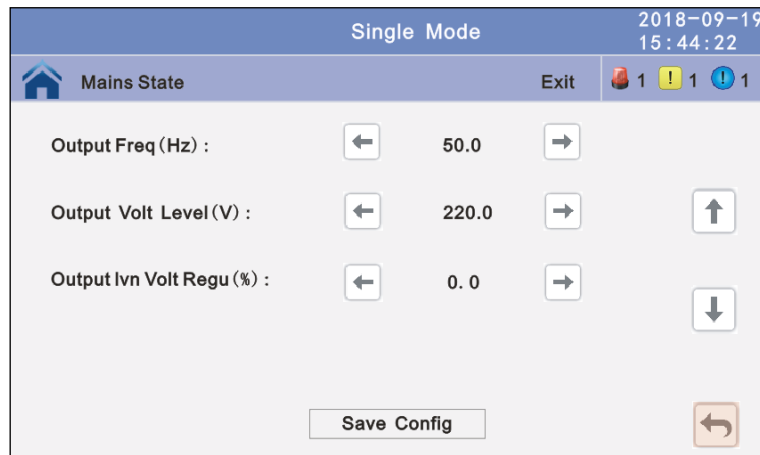

Fig. 4-32 Settings/Advanced Settings/Output submenu
- Output setting submenu (Fig. 4-32)